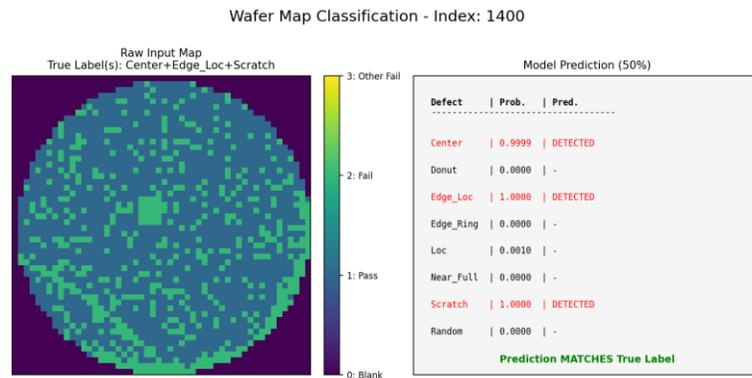

Figure 7: Prediction Example: Raw map vs. Model output for Test Index 1400.
- Figure 7: Prediction Example: Test Index 1400. (Source: 7_generate_report_visuals.py)